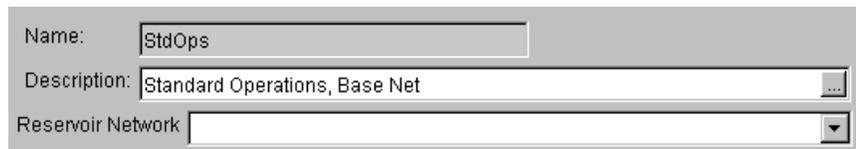

Figure 13.3 Alternative Editor--Name and Description Fields
4. Click **OK** to close the New Alternative dialog box. The name and description you entered will now appear in the **Name** and **Description** fields of the Alternative Editor (Figure 13.3).